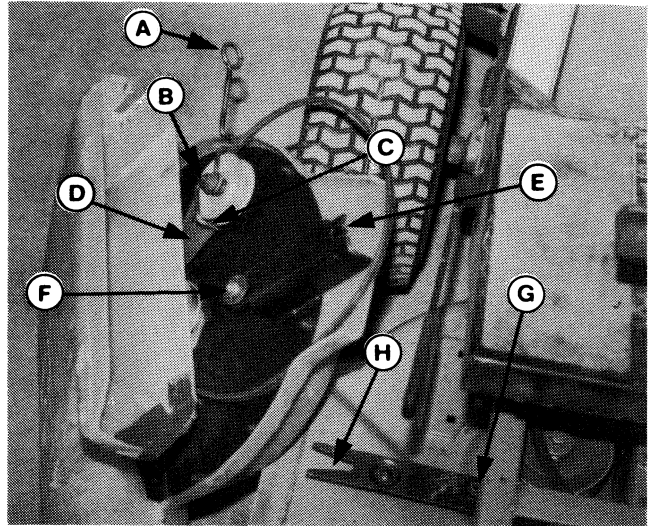

Figure 6.
7. Make sure that belt retainer (A, figure 6) is positioned correctly. Loosen the nut (B) and position the leg (C) so it is against the side of the idler arm (D). Then, tighten the nut (B).
8. Install the blower assembly (figure 6) onto mower deck as follows. Note that the notch (E) will be placed onto small spacer (G) on top of the strap. The blower assembly spacer (F) will fit into the strap notch (H).